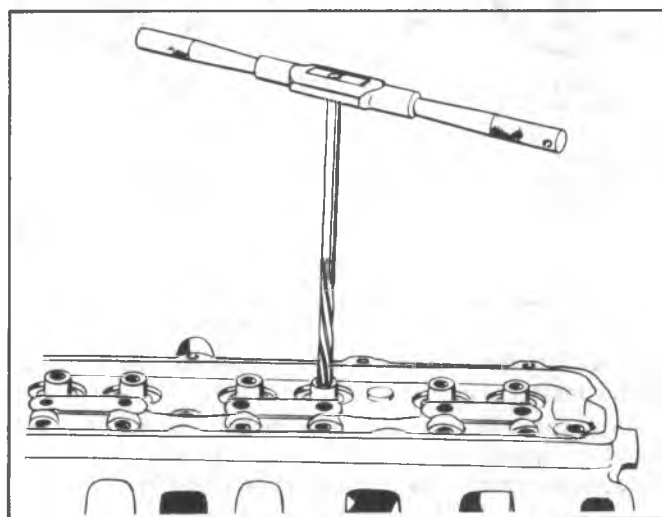

Fig. 6A6-60--Reaming Valve Guide Bores
3. Install Tool J-5892-1 (Fig. 6A6-61) and compress the valve spring until valve keys are accessible; then remove keys, valve rotators and springs. If valve spring does not compress, tap tool with a mallet to break bind at rotator and keys.